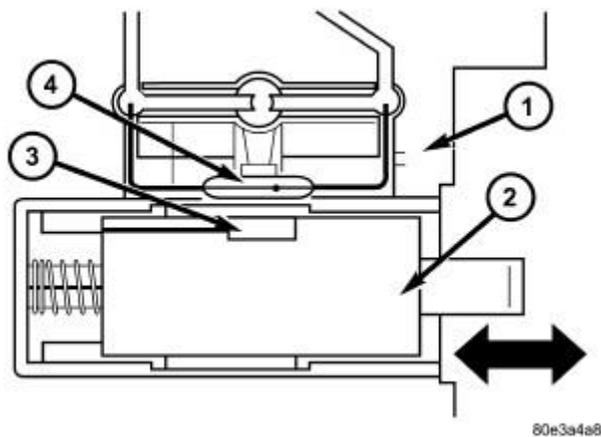

Fig. 156: Cutaway View Of Park/Neutral Contact
In selector lever positions "P" and "N" the park/neutral contact (4) is actuated by a cam track which is located on the detent plate. Refer to **Fig. 156**. The permanent magnet (3) is moved away from the dry-reed contact (4). The dry-reed contact (4) is opened. The TCM receives an electric signal. The circuit to the starter in the selector lever positions "P" and "N" is closed.